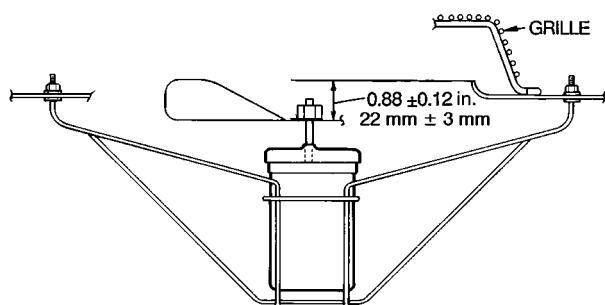

Fig. 40 — Condenser-Fan Adjustment
4. Adjust fan height on shaft using a straightedge placed across venturi and measure per Fig. 40.